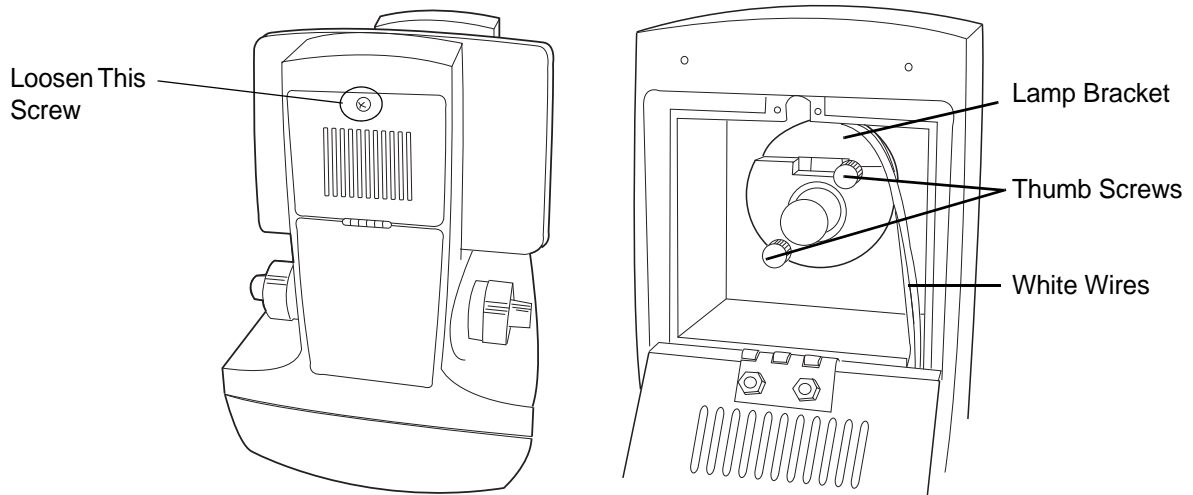

Figure 5-4 Illuminator Assembly Access and Lamp Bracket
- Using the supplied #2 Phillips Head screw driver, loosen the screw of the illuminator assembly door. Open the door to access the lamp bracket. (Refer to Figure 5-4.)
8. Return the lamp fixture to the holding bracket, seating it flat against the bracket. Tighten the thumb screws. Confirm that the wires come out from the top of the fixture (Refer to Figure 5-4). Be sure the wires are not pinched when the thumb screws are tightened.